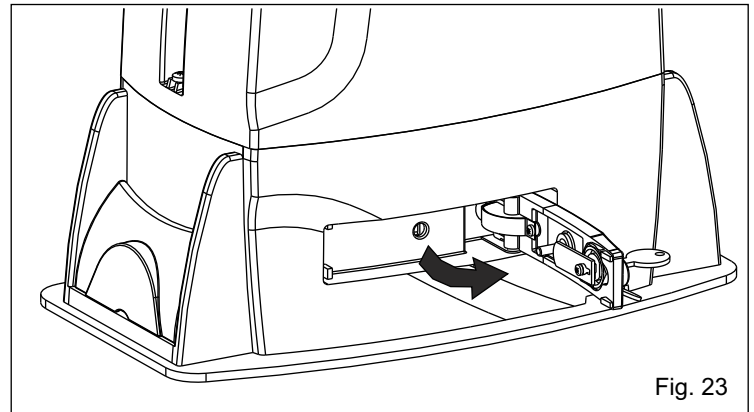

Fig. 23
- Pull the release lever until it stops, about 90° approximately (Fig. 23).